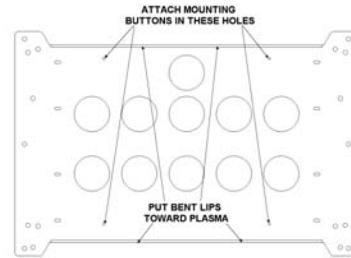
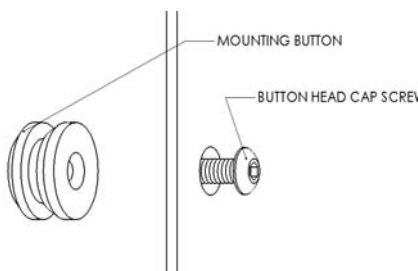
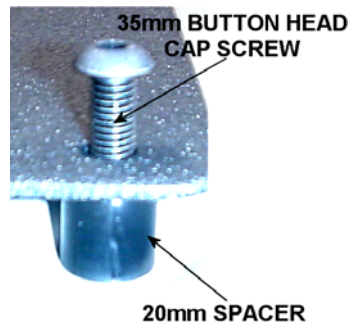
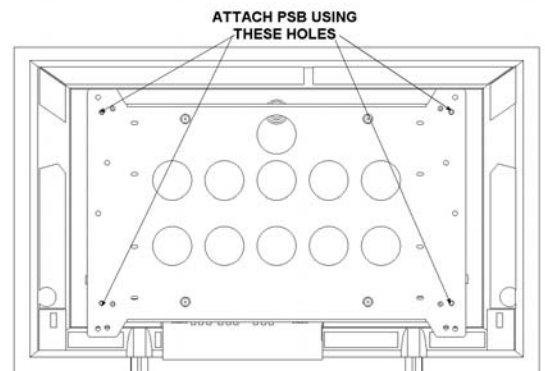

Figure 2
Figure 3
Figure 4
Figure 5
1. Using a 10-24 button head cap screw inserted in the circular hole at a spacing of 14", secure mounting button, with chamfered hole of mounting button (larger surface) facing bracket, to bracket (four places) (see Figure 2 & Figure 3).
2. Place four Nylon spacers on the display over the mounting threads in the display (see Figure 3 & Figure 4).
3. Place the plasma bracket on the display with bent lip towards the display (see Figure 2, Figure 4, & Figure 5).
4. Insert M8 bolts and tighten, ensuring not to over tighten (see Figure 4 & Figure 5).